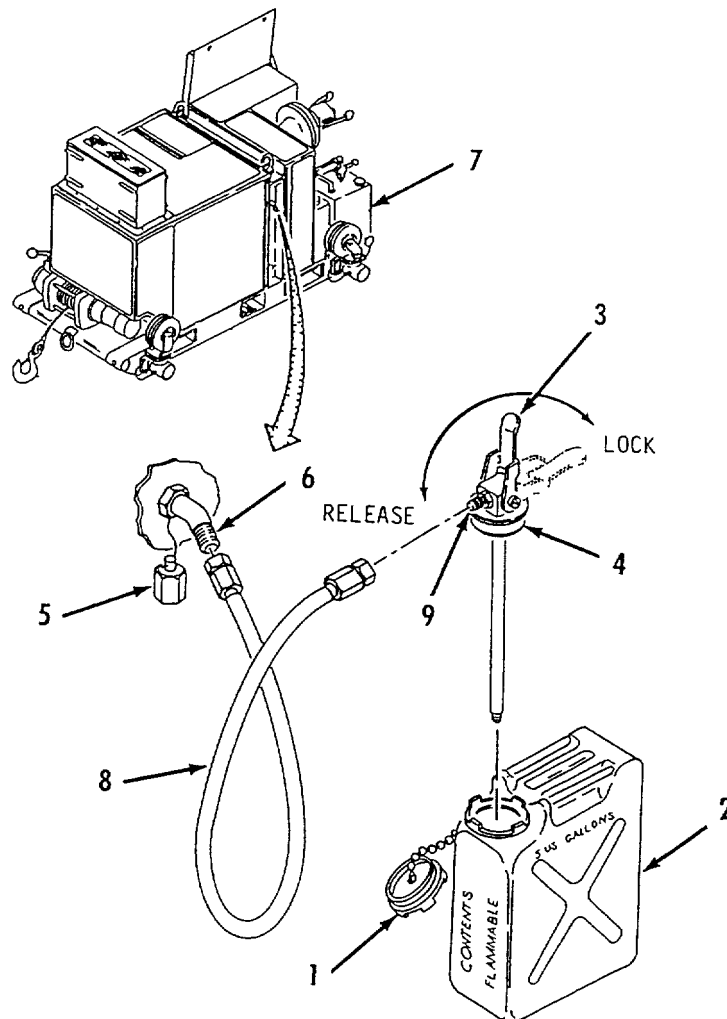

Figure 14. External Fuel Tank Installation.
g. Install 200 GPM Pump External Fuel Tank. Refer to figure 14.
- (1) Remove cap (1) from fuel can (2).
- (2) Lower handle (3) on adapter (4) to release position.
- (3) Place adapter (4) in fuel can (2).
- (4) Press adapter (4) into neck of fuel can (2) and raise handle (3) to lock position. Adapter seal will expand and secure adapter in place.
- (5) Remove cap (5) from external fuel connector (6) on 200 GPM pump (7).
- (6) Connect one end of fuel hose (8) to external fuel connector (6).
- (7) Connect other end of fuel hose (8) to coupling (9) on adapter (4).